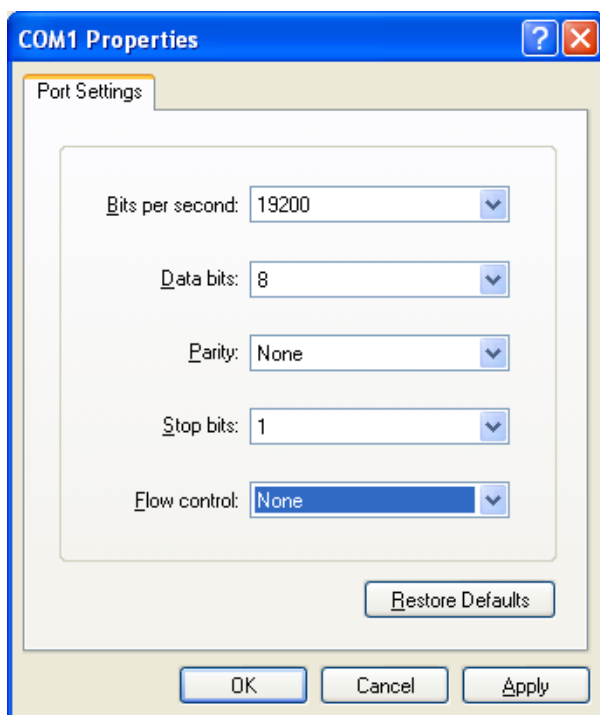

Figure E-5. COM properties
4. Configure the COM port baud rate and other properties as shown in Figure E-5